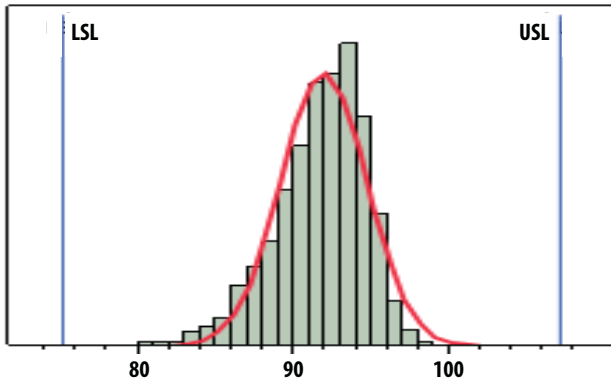

Figure 1. Idd, LSL = 75 mA, nominal = 92 mA, USL = 107 mA
RF performance at T_A = 25° C, V_{dd} = 5 V, 915 MHz, measured on demo board in Figure 1 with component listed in Table 1 for DC bypass.
1. Measurements at 915 MHz obtained using demo board described in Figure 1.